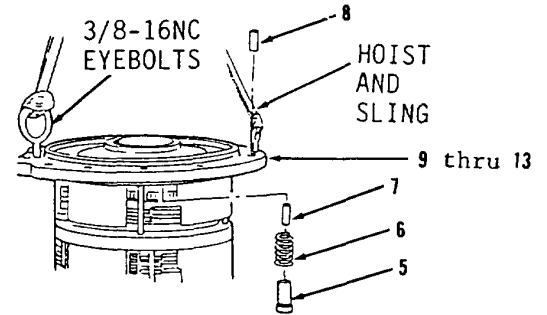
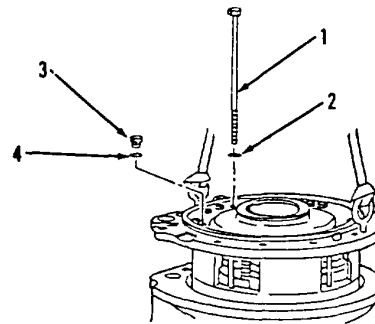

Figure 14-40.
Figure 14-39.
50. Install two eyebolts in housing (13, Figure 14-40) and attach hoist and sling.
51. Position housing on transmission assembly and lift housing (13) slightly to install four dowels (7), springs (6) and plungers (5).
52. Install dowel (8).
53. Install new preformed packing (4) and plug (3, Figure 14-39).
54. Install 12 washers (2) and bolts (1).